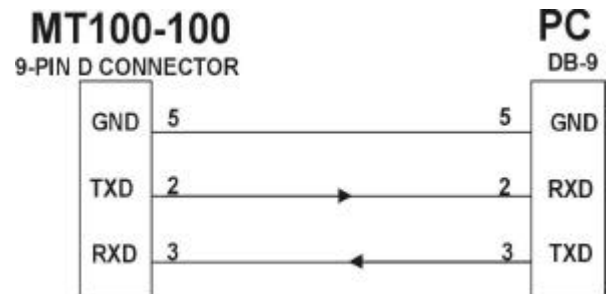

Figure 1: DB-9 Serial Connection
*Note: Make sure that the transmit pin of the control unit is connected to the receive pin of the **MT100-100**. Also, make sure that the receive pin of the control unit is connected to the transmit pin of the **MT100-100**. See figure 1 and 2.*